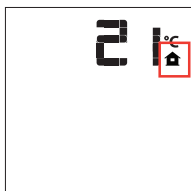

Figure 20b - Remote Control Displaying Room Temperature
1. Press the ON/OFF button on the transmitter, The transmitter LCD display will only show the room temperature and icon (see Figure 20b). The receiver disconnects and will command the DFC board to turn off the burner.